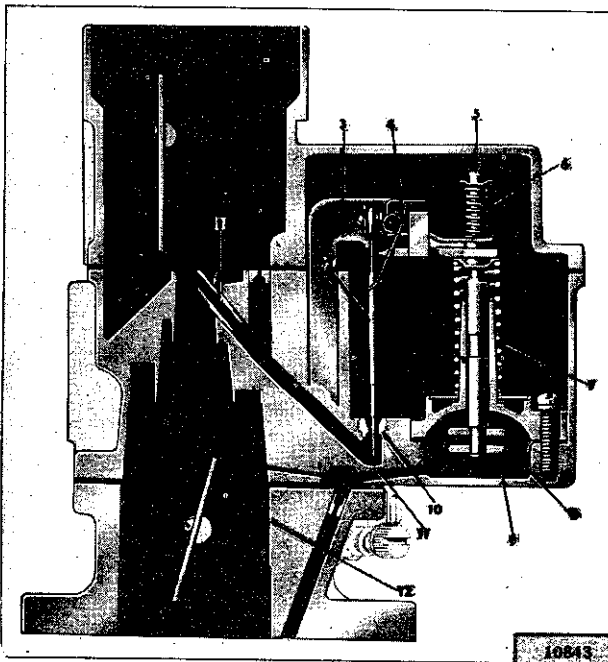

FIG. 134—THE HIGH SPEED CIRCUIT
Numbers in parentheses refer to items in Fig. 134. Fuel for part-throttle and full-throttle operation is supplied through the high speed circuit, Fig. 130. Metering rod (2) and metering rod jet (10) control the amount of fuel admitted through nozzle (1) for high-speed operation. The lower end of metering rod (2) is calibrated to accurately meter the fuel required. As the rod is automatically raised and lowered in jet (10) the opening in the jet is varied to supply more fuel through the higher speed and power range. The metering rod is both mechanically and vacuum controlled and is attached to the metering rod arm (4).
Metering rod adjustment is important and should be checked each time the carburetor is reassembled. Before adjustment is made, be sure the flat of metering rod arm (4) is parallel to the flat of pump lifter link (3) as shown in Fig. 134. With throttle valve seated in the bore of the carburetor at No. 12, press down on the upper end of diaphragm shaft (5) until the diaphragm bottoms in the vacuum chamber. The metering rod should now seat in casting at No. 11 with the metering rod arm flat against the pump lifter link. If the metering rod does not seat in the body casting, or seats before the metering rod arm makes flat contact with the pump lifter link, make adjustment by bending lip on metering rod arm (4).